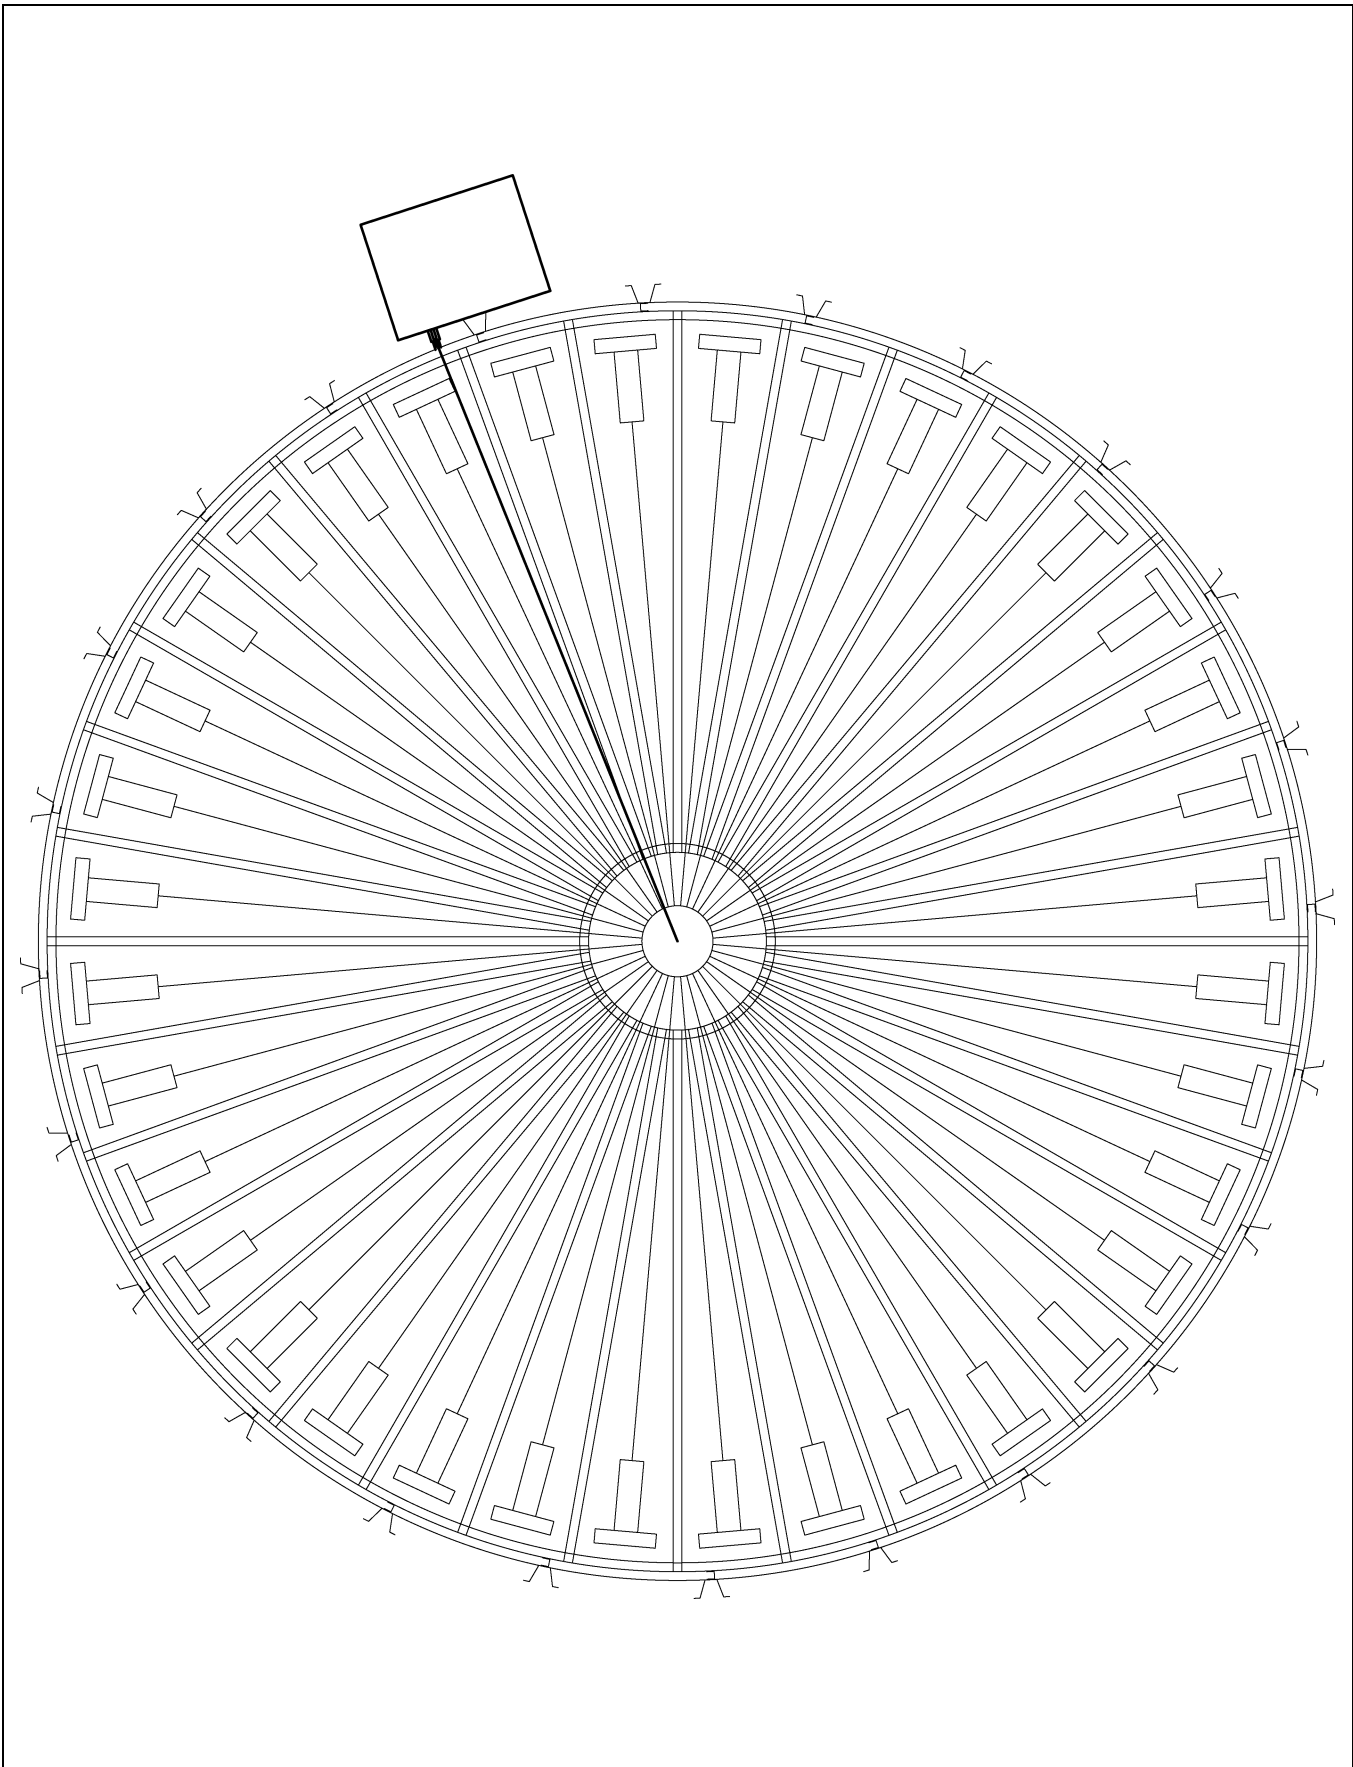
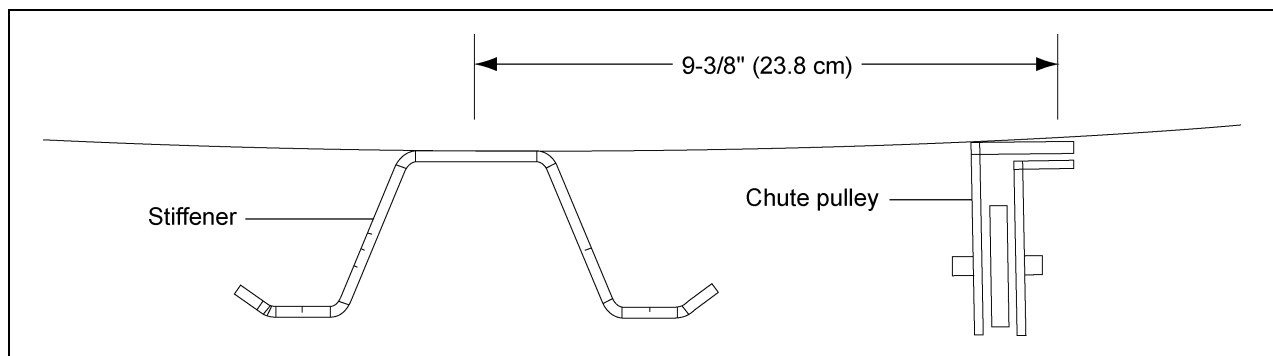

Figure 3A Chute Pulley Cable Location
Figure 4A
1. Position the pulley in the hole that is located 9-3/8" (23.8 cm) horizontally from the center of the stiffener. **NOTE:** When positioning the pulley, ensure the pulley cable does not interfere with the dump chutes. This can only be accomplished at every other stiffener. (See Figure 4A below and Figure 3A on Page 13.)